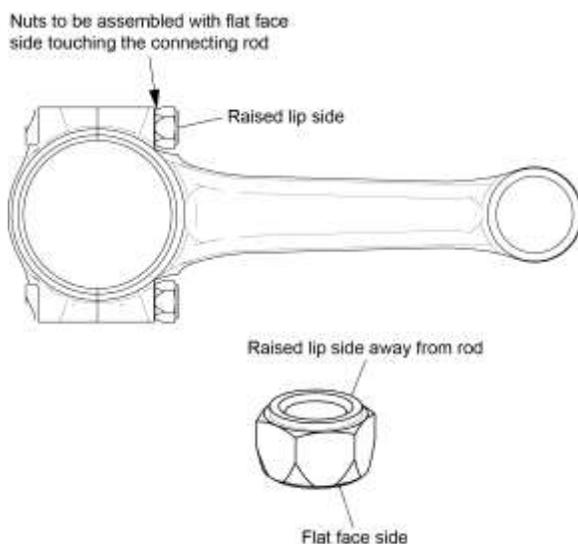
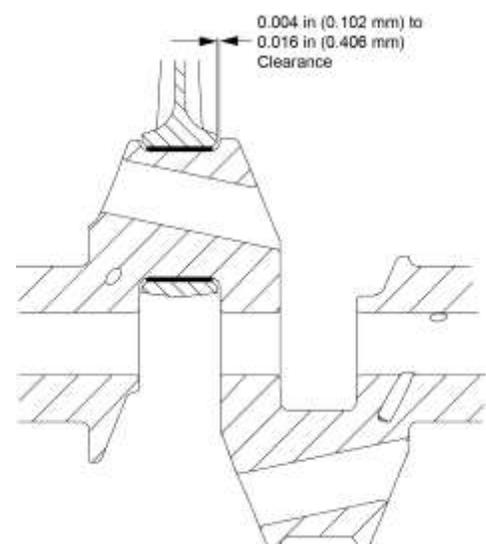

Figure 51
Figure 52
- (9) Install a new nut on each new connecting rod bolt where the flat face of the nut touches the connecting rod as shown in Figure 51.
- (10) Torque the connecting rod bolts per the torque values in the latest revision of Service Instruction No. SI-1458. (Stretch bolts require an initial torque and are then torqued to the correct stretched length.)
- (11) Measure the side clearance between the connecting rod and crankshaft with a feeler gage where shown in Figure 52. The clearance is to be 0.004 to 0.016 in (0.102 to 0.406 mm).